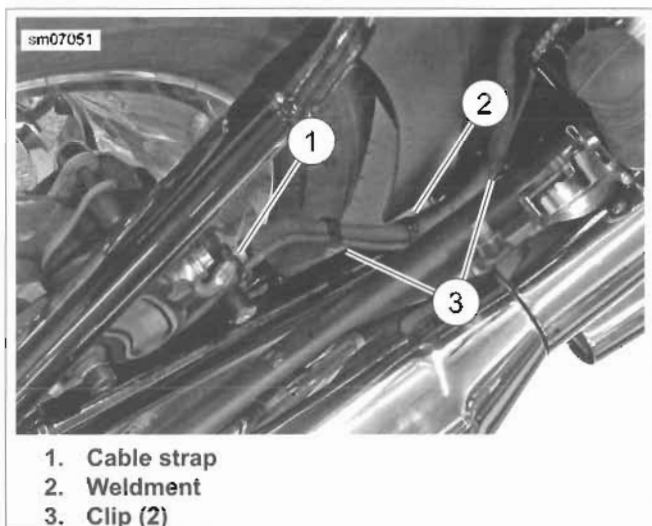

Figure 2-66. WSS cable Routing
2. See Figure 2-66. Remove clips (3) and cut cable strap (1).
3. Remove brake line from weldment (2).
4. See Figure 2-66. Route brake line into weldment over pivot shaft and down rear fork frame. Attach brake line to weldment (2).
7. See Figure 2-66. Install clips (3) and **new** cable strap (1).